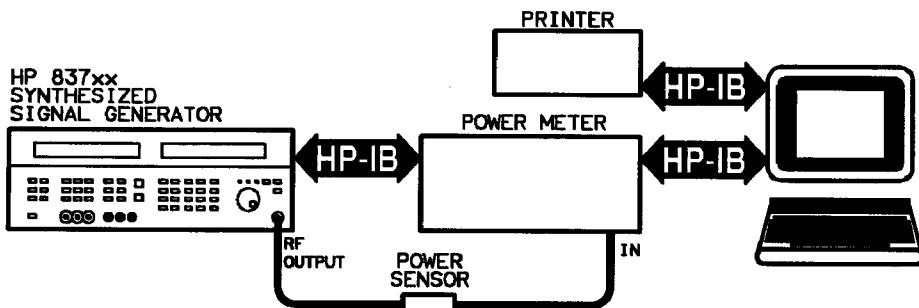

Figure 7-4. 1—20 GHz Frequency Calibration 2 Equipment Setup
2. Set up the equipment as shown in Figure 7-4.